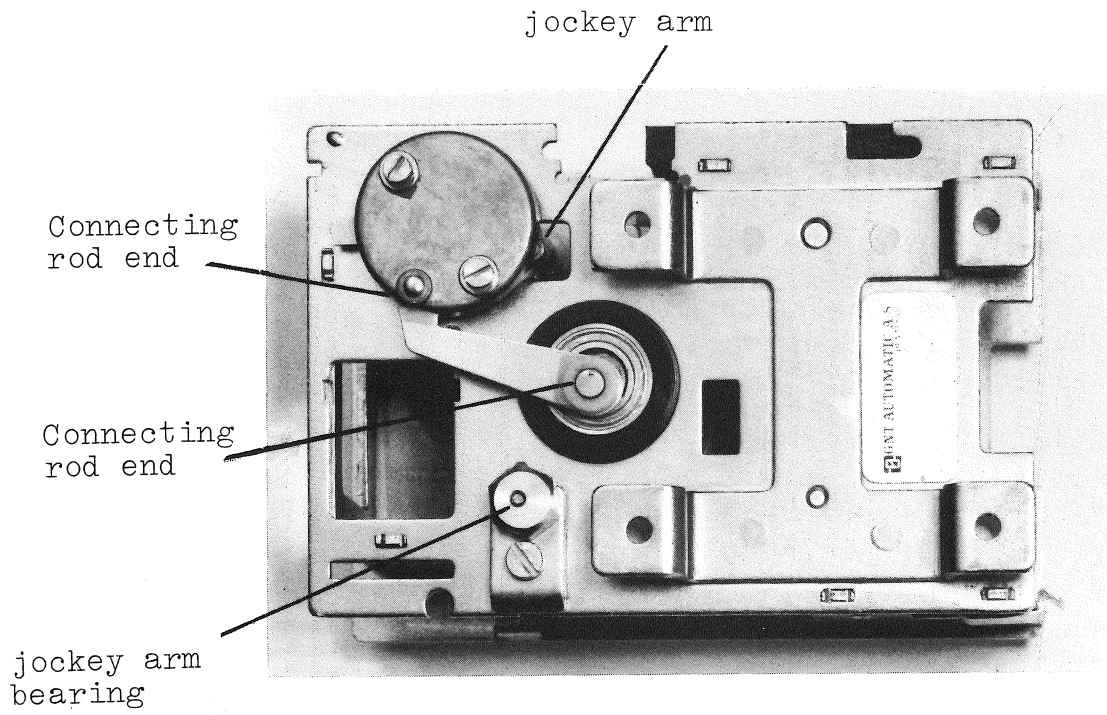

Fig. 5.5c Lubrication
- e) Lubricate both ends of the connecting rod (Fig. 5.5c).
- f) Lubricate both ends of the jockey arm (Fig. 5.5c).